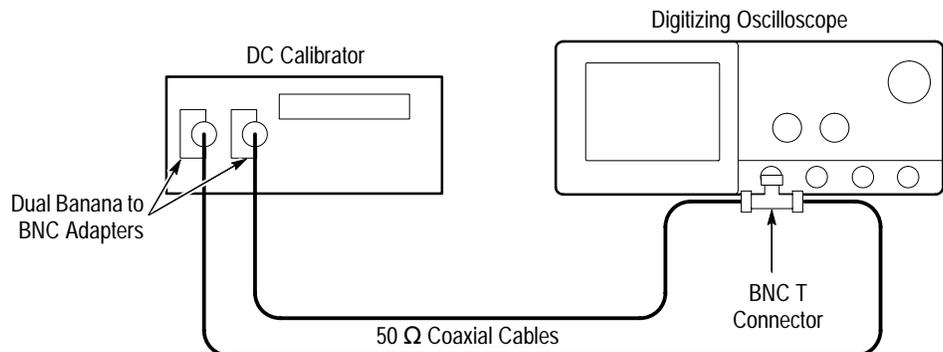

Figure 4–24: Subsequent Test Hookup
the other side of the BNC T connector. Now connect the BNC T connector to **CH 1**. See Figure 4–24.
- f. Press **CLEAR MENU** to remove the menus from the display. See Figure 4–25.